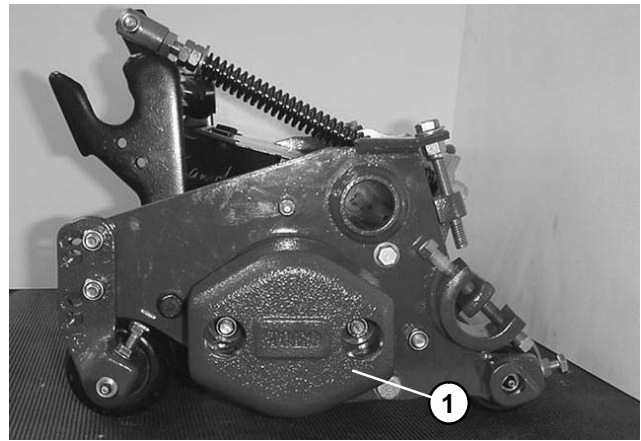

Figure 38
A. Remove the mounting nuts from the counterbalance end weight (Fig. 38).
1. Remove counterbalance end weight (Fig. 38).